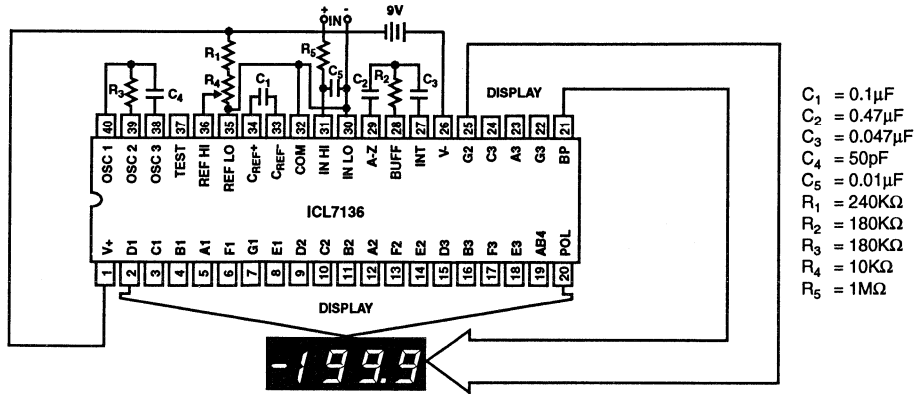
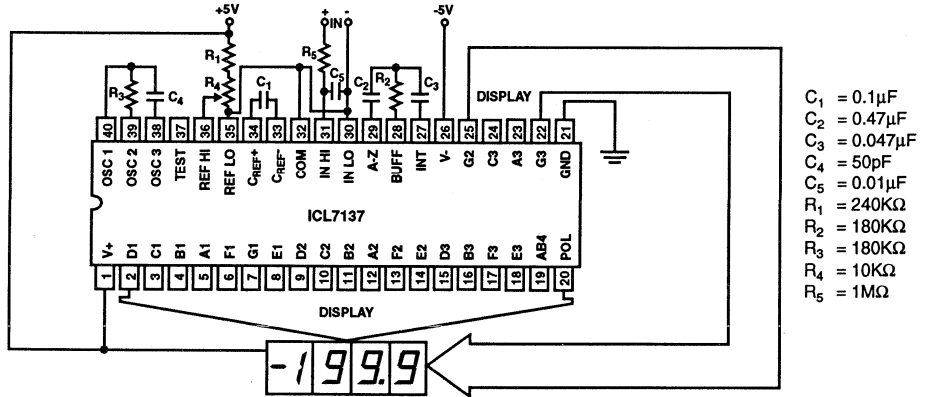

FIGURE 1. ICL7136 TEST CIRCUIT & TYPICAL APPLICATION WITH LCD DISPLAY COMPONENTS SELECTED FOR 200mV FULL-SCALE
FIGURE 2. ICL7137 TEST CIRCUIT & TYPICAL APPLICATION WITH LED DISPLAY COMPONENTS SELECTED FOR 200mV FULL-SCALE
- Unless otherwise noted, specifications apply to both the ICL7136 and ICL7137 at $T_A = +25^\circ C$, $f_{CLK} = 48kHz$. ICL7136 is tested in the circuit of Figure 1. ICL7137 is tested in the circuit of Figure 2.